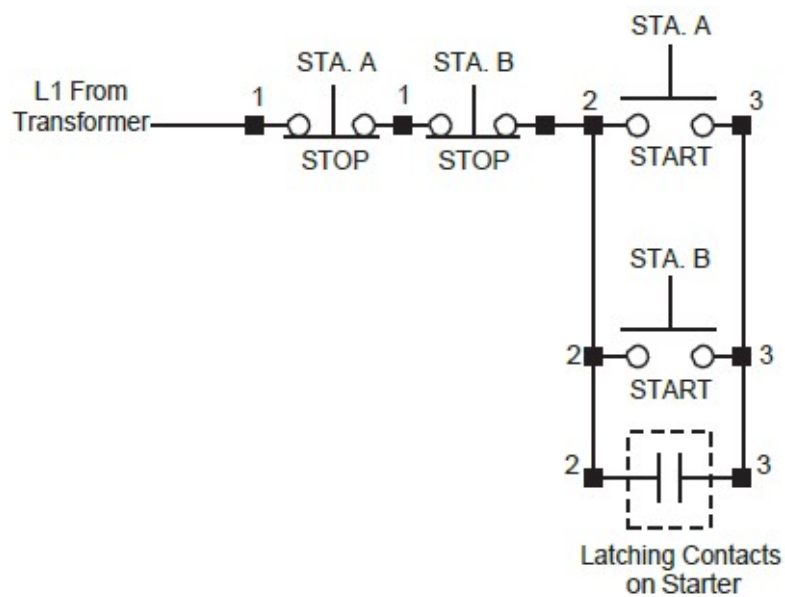

Figure 2 ■ Three-Wire Control Wiring Schematic
2. Carefully review the schematic drawing in Figure 2.
7. Prepare the wire ends and terminate the wiring in Station A, Station B, and on the magnetic starter latching contact as shown in Figure 2.